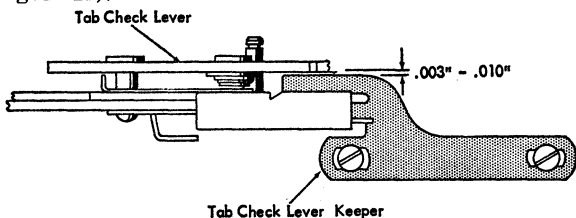

Figure 11. Tab Check Lever Keeper Adjustment
b. Adjust the left end of the tab check lever keeper forward or back to obtain $.003''$ to $.010''$ clearance between the check lever and the keeper when the tab lever is held to the rear by the tab latch (Figure 11).